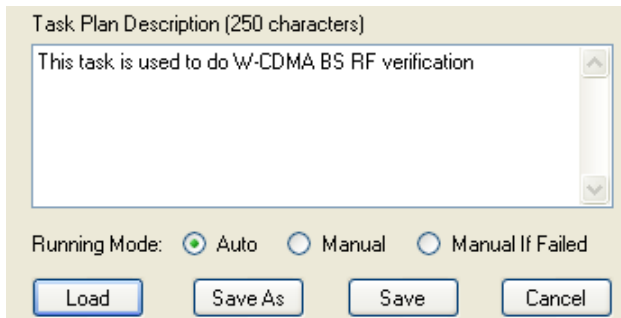

Figure 11. Task plan running mode
- There are three choices (see Figure 11):